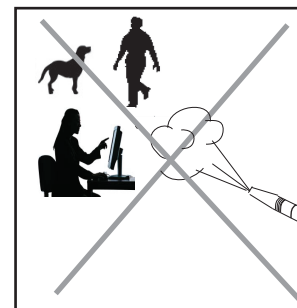

Fig. 3
- Do not point the steam jet towards yourself and/ or towards other people, animals, or materials that are sensitive to high temperatures and/ or dampness. (**Fig.3**)
- Do not unscrew the boiler drain plug (I) when the appliance is operating. Before unscrewing the cap, make sure the steam pressure boiler is no longer pressurised;